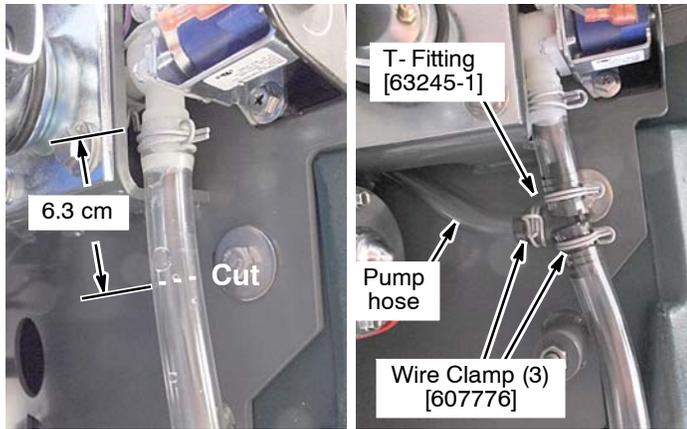

Fig. 41
- Cut the solenoid valve solution hose as described. Using T-fitting and 3 wire clamps, connect the ec-H2O pump hose to the cut hose as shown (Figure 41).